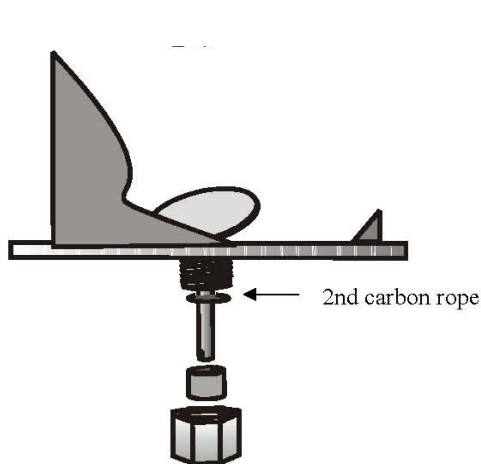

Figure 13
15. Place the previously removed PEEK bushing over the end of the shaft and install the Brass Packing nut on the end of the shaft and temporarily tighten the Packing Nut with your hand. This will uniformly compress the packing elements that have been put in place (Figure 13).